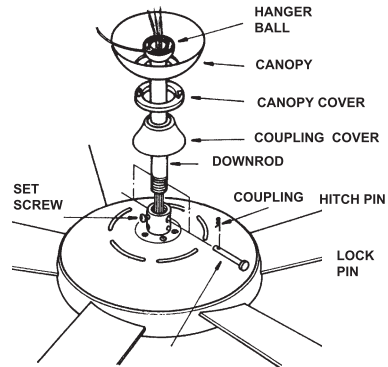

Fig.11
Step 4. Carefully feed fan wires up through the downrod. (Fig.11) Thread the rod into the motor coupling, next line up holes and replace the lock pin and hitch pin. Tighten set screws.
Step 5. Slip coupling cover, canopy cover and canopy onto downrod. (Fig.11) Carefully reinstall hanger ball onto rod being sure that the cross-pin is in the correct position, set screws are tighten and wires are not twisted.